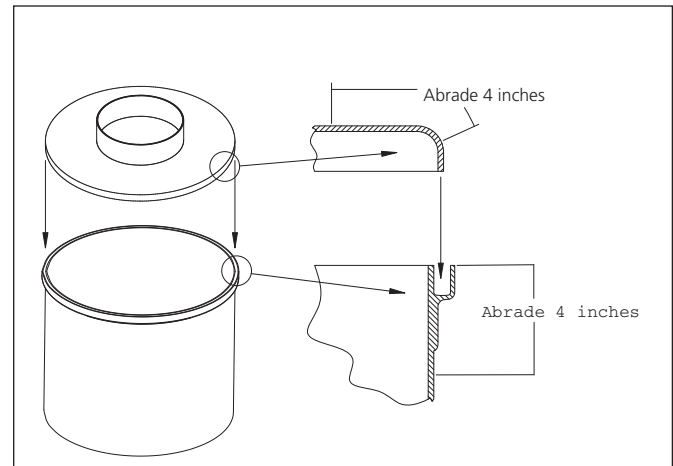

FIGURE 2-2
2.2.2. When using a watertight sump riser, abrade the entire circumference of the outside surface of the channel and the top of the riser body. (See FIGURE 2-2.)
- 2.5. Measure and mark the riser body on its circumference to locate laminate placements. The laminate should be centered on the joint. (See FIGURE 2-2.)